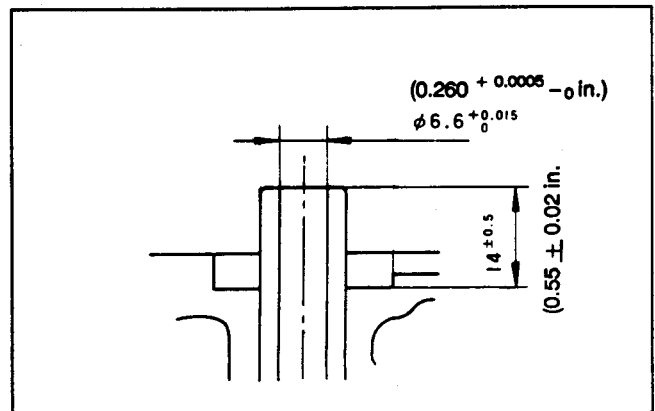

Figure 74
3. To install the new valve guide press it in from the top of the cylinder head, using the valve guide mandrel. Install the valve guide so the installed height is 13.5 - 14.5 mm (0.531 - 0.571 in.) above the cylinder head (Fig. 74).
3. Make sure the valve guides are properly installed (Fig. 74).